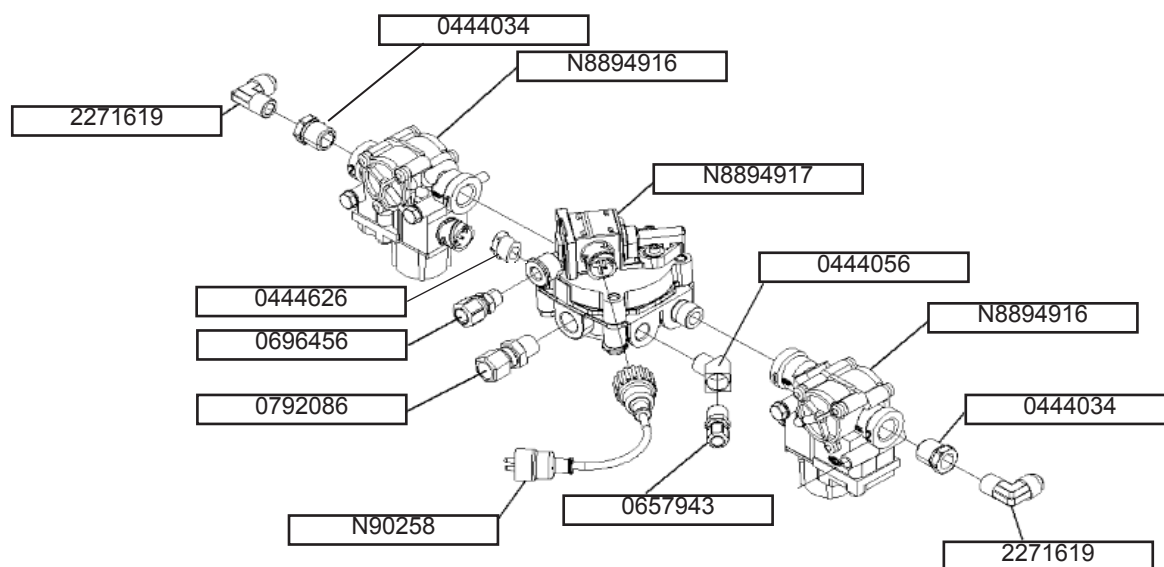

Figure 1 - Brake Valve Assembly
- 1.1. Install the different parts for the brake valve assembly as per Figure 1. All fittings are in the horizontal (0 degrees) position. Apply an even coat of liquid sealant, such as Loctite 565, over the entire circumference of the first four threads of the male coupling.